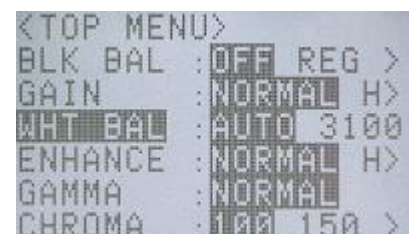

Figure 3-69 WHT BAL(TOP MENU)
- 2) Use the arrows   to select "WHT BAL" from the TOP MENU. (Figure 3-69)